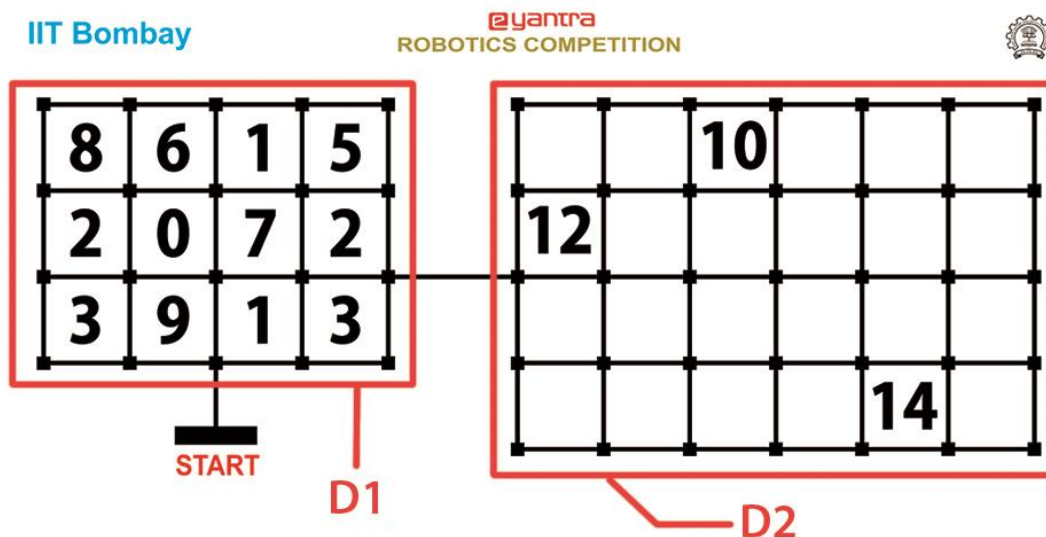

Figure 1: Input Image of Arena
- Prior to the start of theme execution, an input image of the arena is given to the team. An example is shown in Figure 1 that is used in this rulebook to explain the Theme. The arena represents a simplified abstraction of a puzzle with the following:
- D1 is a grid having 12 **Cells** and D2 is a grid having 24 **Cells** as shown in Figure 1.
- For example, given the test image in Figure 1 as input, the output on the Python IDLE console will look like: